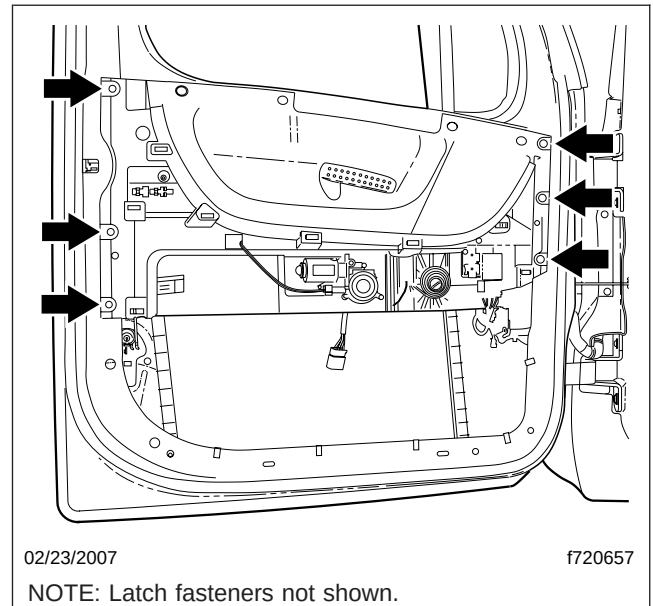

Fig. 5, Door Cassette Fasteners
14. Remove the six Torx screws that attach the door cassette to the door assembly; see Fig. 5.
2. Attach the door cassette to the door assembly, installing the Torx screws in the order following; see Fig. 5.